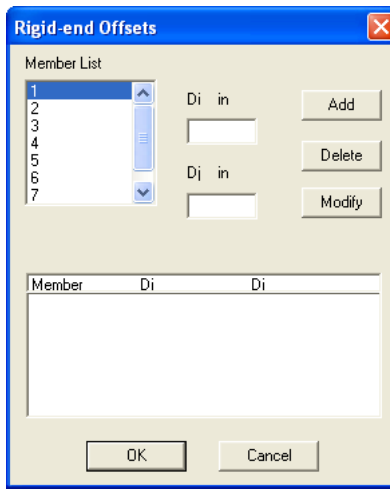

Figure 3-28 Rigid-end Offsets dialog box
- From the **Process** menu, select **Rigid-end Offsets**. The dialog box Figure 3-28 appears.